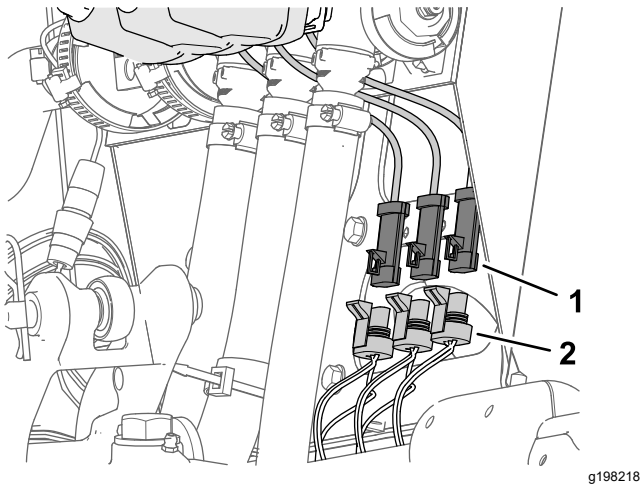

Figure 37
1. Disconnect the 3-socket connector labeled LEFT SPRAY VALVE, CENTER SPRAY VALVE, and RIGHT SPRAY VALVE of the machine wire harness from the 3-pin connectors of the 3 spray-valve actuators (Figure 37).